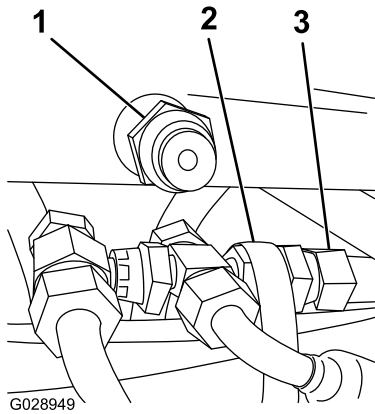

Figure 3
5. Insert blanking caps into the holes in the manifold (Figure 3).
9. Secure the front tee assembly to the hose bundle below it with a cable tie (Figure 3).